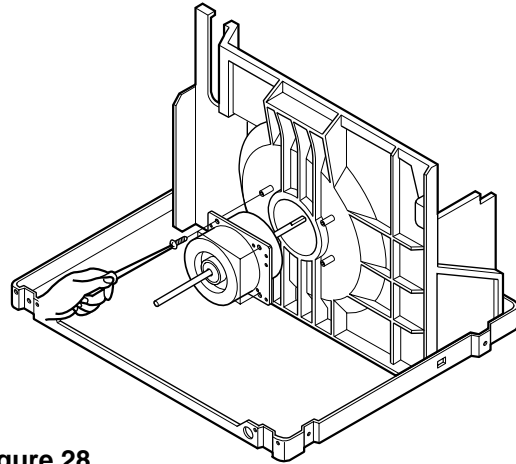

Figure 28
4. Remove the 4 screws which fasten the motor from the air guide. (See Figure 28)
6. Re-install the components by referring to the removal procedure, above.(See Figure 28)